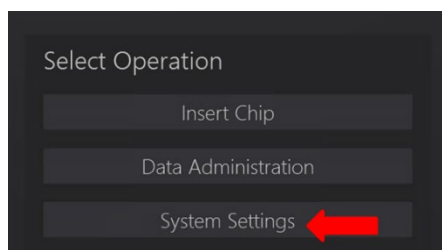

Figure 5. System Settings
2. In **Saphyr ICS** Main Menu, select **System Settings (Figure 5)**.